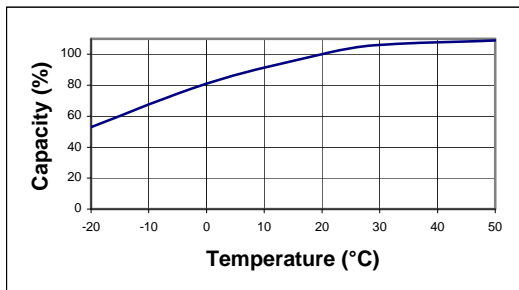
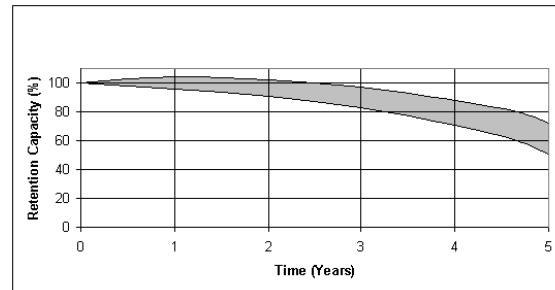

Fig. 2.6: Effect of Low Temperature On Standby Battery Capacity
Fig. 2.7: Life Characteristics In Standby Use
- A. The battery is designed to be a user replaceable item if desired. Recommended replacement interval for the standby battery (P/N 9015607) is 3 years because of diminished capacity (See Figures. 2.6 and 2.7 for more information).
Actual operation time on the battery may vary considerably depending on temperature, charge status, and battery condition. Low temperatures will temporarily degrade battery capacity as shown in Fig. 2.6. Internal chemistry will slowly degrade battery capacity over several years of operation as shown in Fig 2.7, even when correctly maintained. A poorly maintained battery will suffer accelerated degradation in excess of the guidelines given in this document. Extended storage in a discharged state or at high ambient temperatures, and over-charging will all permanently damage a battery. Complete charging is required to bring the battery up to full capacity if it has been stored for more than four months or if it has been partially discharged.